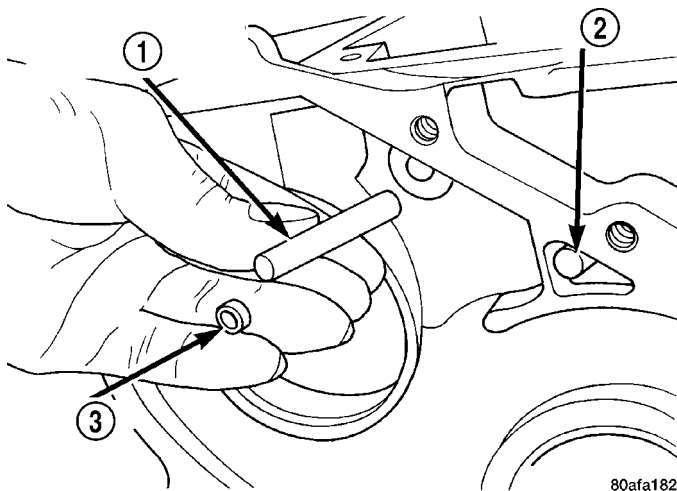

Fig. 76 Remove Anchor Shaft and Plug
(59) Using a suitable punch, drive out park guide bracket pivot shaft plug (Fig. 76).